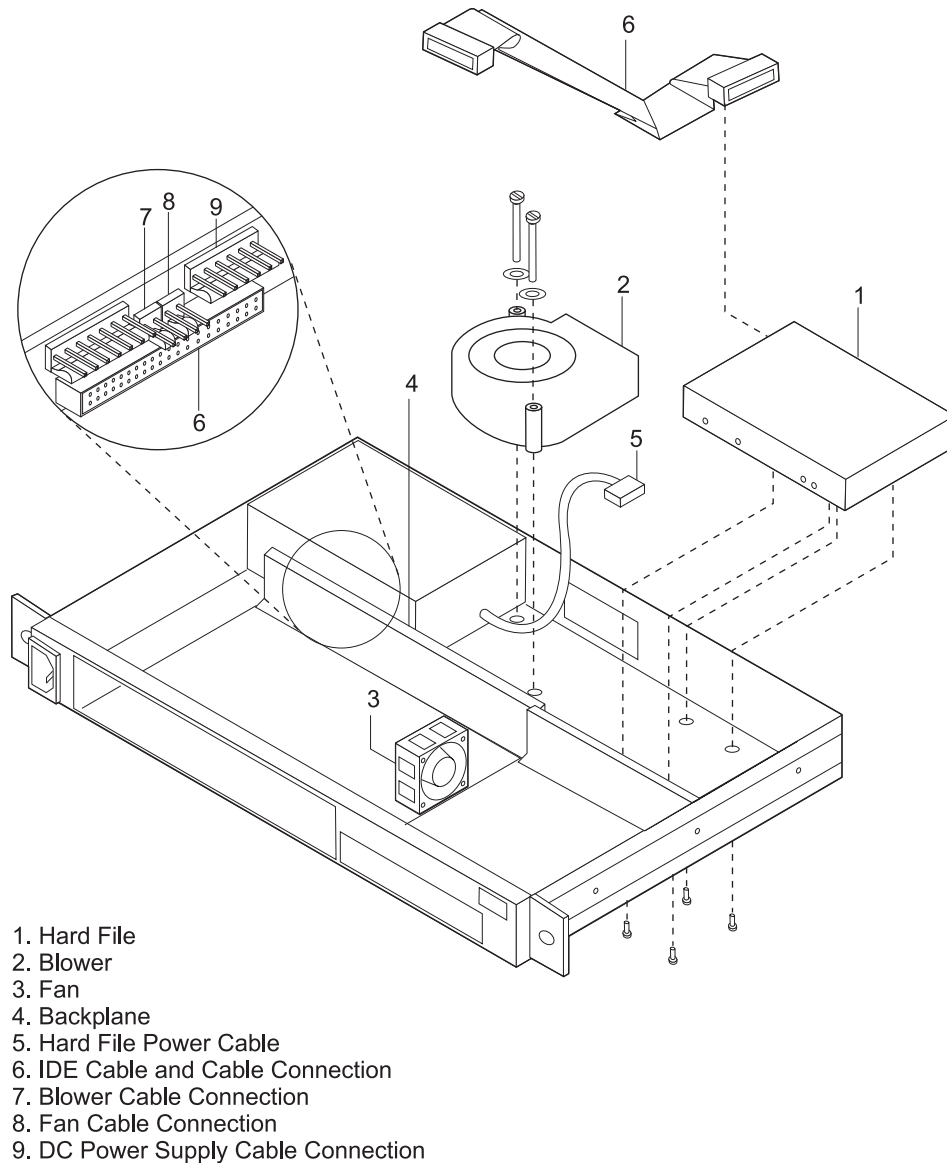

Figure 2-7. Model 1xx Chassis with a Hard File
3. **Connect the DC power cable to the backplane at the 6-pin connection. Connect the blower and fan connector cables to the backplane at either 2-pin connection. (See Figure 2-7 on page 2-13.)**
3. Connect the hard file IDE (flat ribbon) cable to the backplane and route as shown in Figure 2-7.